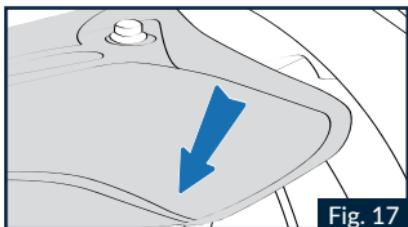

Fig. 17
1.3 Remove the rear tab of the comfort padding of the left cheek pad from the cavity between the rear trim and the polystyrene inner shell; then completely remove the cheek padding from the helmet (Fig.17).
6.1 Insert the rear tab of the comfort padding of the left cheek pad into the cavity between the rear trim and the polystyrene inner shell (Fig.17)..